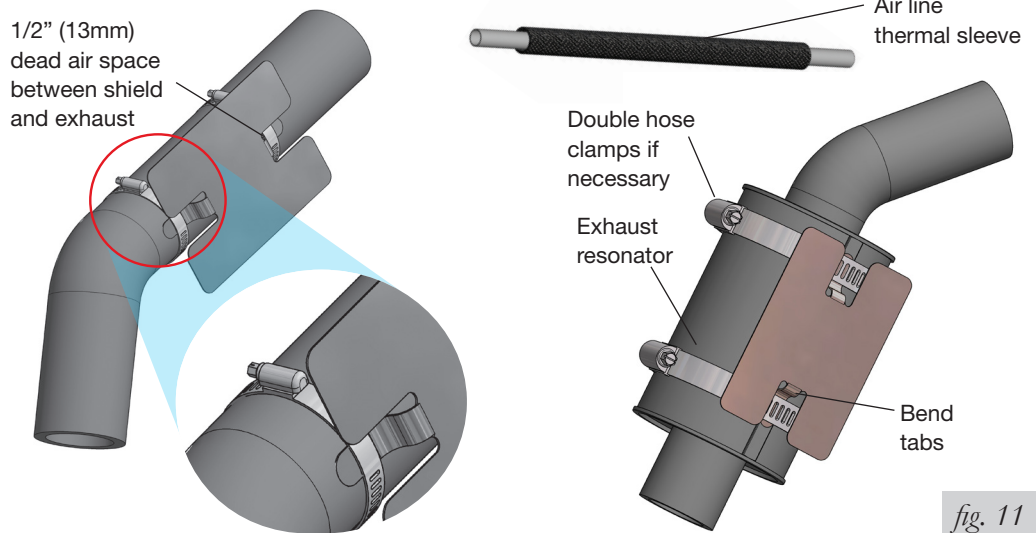

fig. 11
1. Attach the metal heat shield to the exhaust where it is closest to the passenger's (right) side air spring. Slide the air line thermal sleeve over the air line and position it where the air line is closest to the exhaust. (Fig. 11).